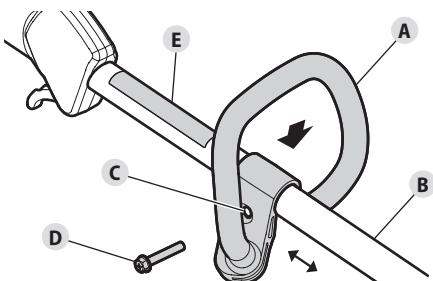

Fig. 10
- Push the handle (Fig. 10-A) down onto the upper shaft housing (Fig. 10-B). Make sure the bolt hole (Fig. 10-C) faces to the right.
- Insert the bolt (Fig. 10-D) into the bolt hole and push it through. Tighten the bolt with a flat-head screwdriver, but do not tighten the bolt completely.
- Hold the unit in the operating position (Fig. 16). Move the handle up or down the upper shaft housing to a comfortable location. Make sure the handle is positioned beyond the end of the safety label (Fig. 10-E).
1. Loosen the bolt (Fig. 10-D) with a flat-head screwdriver.
2. Hold the unit in the operating position (Fig. 16). Move the handle up or down the upper shaft housing to a comfortable location. Make sure the handle is positioned beyond the end of the safety label (Fig. 10-E).